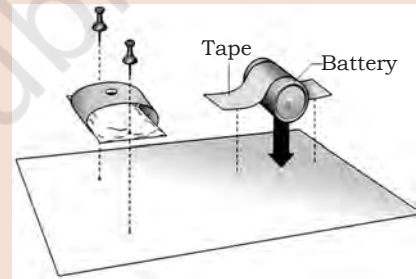

Fig. 1.34
3. Use the tip of a pen to widen the holes and then use brads to lock the bulb holder in place on the circuit board as shown in Fig. 1.34.